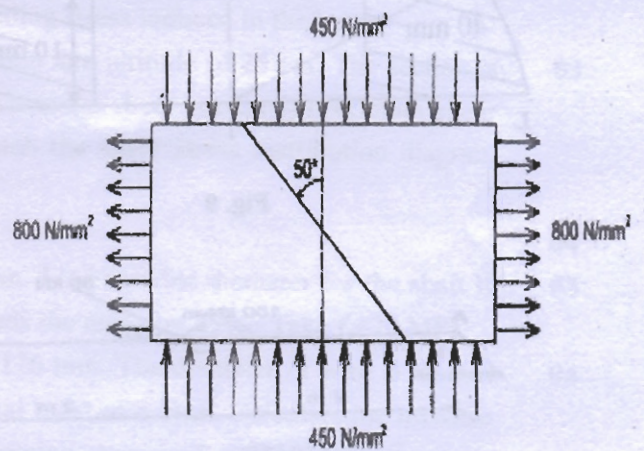

Fig. 4
- (b) A point in a strained material is subjected to the stresses as shown in **Figure 4**. Find Normal (p_n), Tangential (p_t) and Resultant (p_r) stresses on a plane inclined at 50° with vertical as shown in Figure 4. Also find maximum Tangential stress ($p_{t \max}$). Use both Analytical and graphical method.